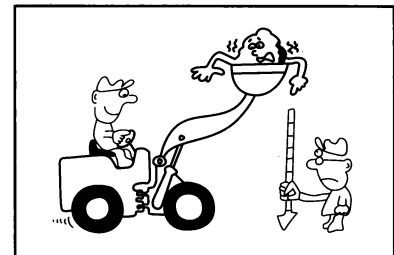

Figure1-49
- It is dangerous to drive the loader with the bucket being highly raised and full of load. When transporting some load, please choose a suitable speed and keep the bucket away from the ground 500~600mm, so the center of gravity of the loader can be lowered and the stability can be ensured. (Figure 1-49)